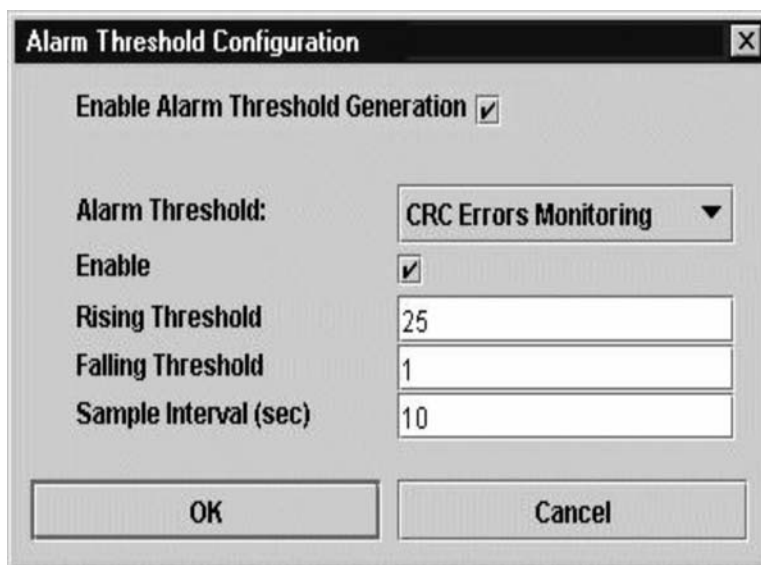

Figure 14. Alarm Threshold Configuration window
2. The Alarm Threshold Configuration window shown in Figure 14 prompts you to select an event, set thresholds, set a sampling interval, and enable or disable the alarm.